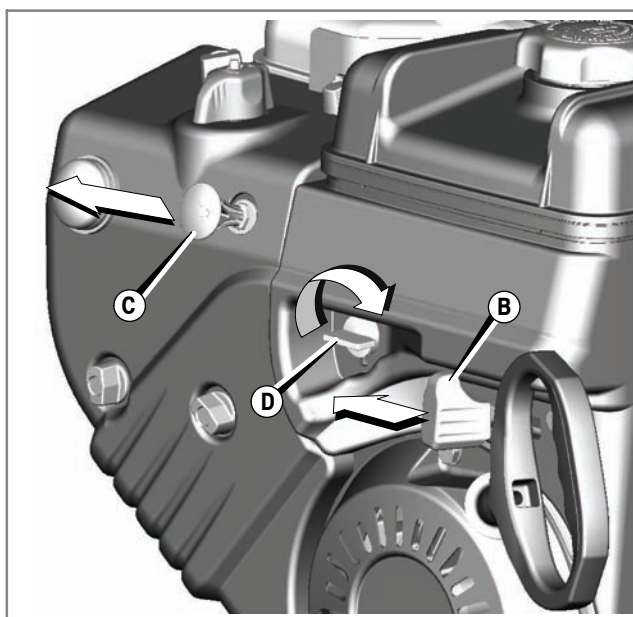

Figure 10
Move the throttle control lever (B), if equipped, to slow  and then to the stop  position (Figure 10).
- Remove the safety key (C, Figure 10). Keep the safety key out of reach of children.
- After the engine stops, turn the fuel shut-off valve (D) to the closed position.